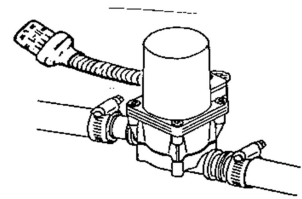

FIG. 5
- 1.5 ORIENTATION OF PUMP FOR CORRECT FLOW DIRECTION – FIG. 5**
SEE PARAGRAPH 1.0. ORIENT PUMP IN HOSE SO COOLANT FLOWS FROM ENGINE TO THE HEATER. SEE FIG. 5.